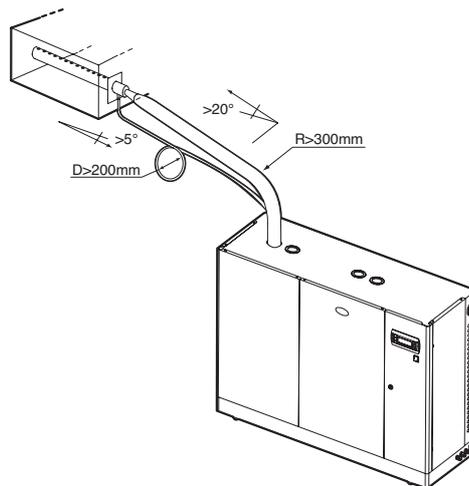

Fig. 4.6
2. per percorsi molto brevi (inferiori a 2 metri), curva con raggio minimo di 300 mm seguito da un tratto in salita con pendenza non inferiore a 20° (Fig. 4.6).
1. rise upwards with a vertical section of at least 300mm, followed by a curve with a minimum radius of 300mm and finally a downwards section with a constant gradient of no less than 5° (see Fig. 4.6);
Due to the re-condensation of the steam produced, condensate forms inside the steam pipe and the distributor that must be removed to avoid gurgling and a reduction in efficiency. The condensate is drained by gravity using a flexible pipe that is suitable for the purpose. The use of unsuitable tubing may cause weakening and cracking and consequently steam leaks. To avoid the release of non-condensed steam from the condensate pipe, a drain trap must be made by looping part of the drain pipe. The end of the condensate pipe can be connected to the nearest drain pipe, with a minimum slope of 5° to assist correct downflow (see Fig. 4.6).